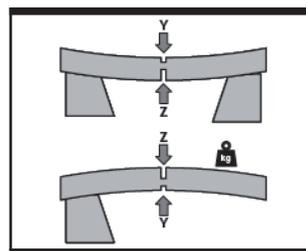

Fig. 22
- Support logs so that the face sides at the cut do not close in against each other, which would result in the chain being jammed or pinched. (See Fig.22)
- Length cuts must be carried out with care, as leverage with the spiked bumper (15) is not possible. Saw at a flat angle to avoid kickback.
8. CUTTING WOOD UNDER TENSION. (See Fig.22)